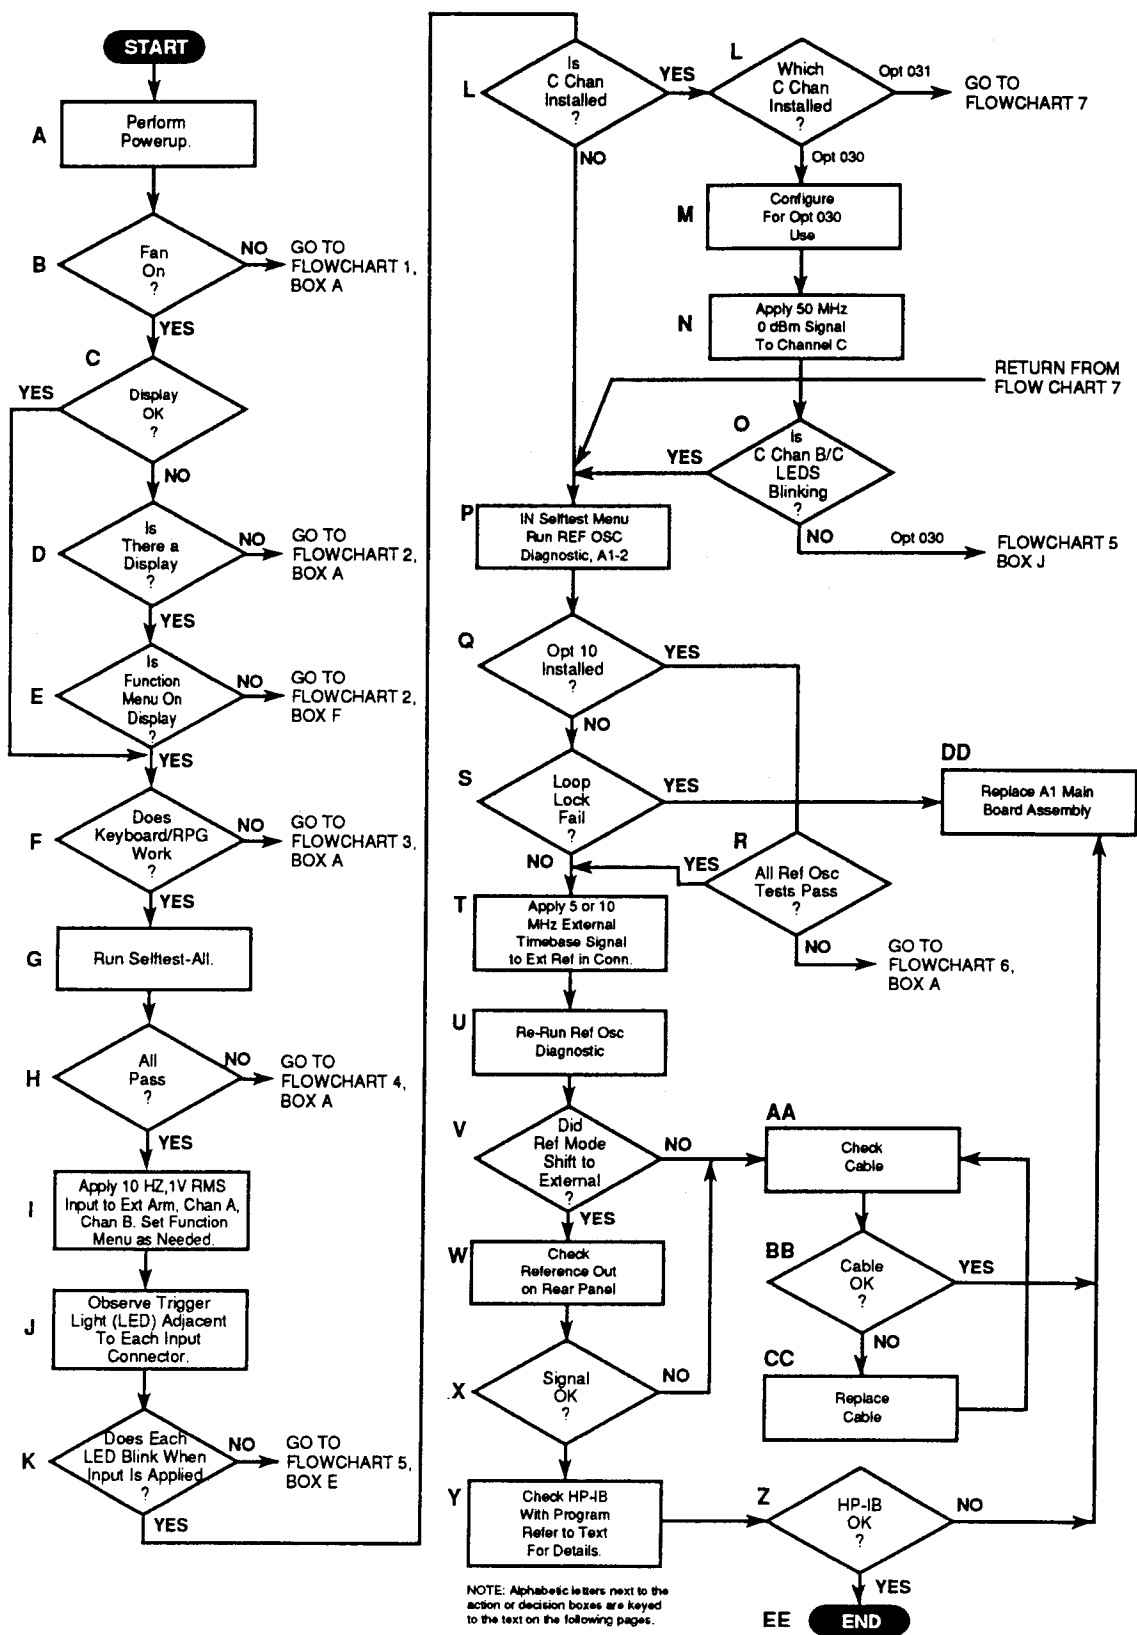

Figure 4-1. HP 53310A Primary Trouble Isolation Flowchart
The actions in the Primary Flowchart, *Figure 4-1*, can be performed **WITHOUT** removing the cover of the instrument. Enough front panel and other indications exist to allow close definition of the problem before removing the cover.
- 1 Perform tests in the Primary Flowchart in *Figure 4-1* and read the adjacent “PRIMARY FLOWCHART DETAILS” section for detailed explanations of each procedure called out in the Primary Flowchart.